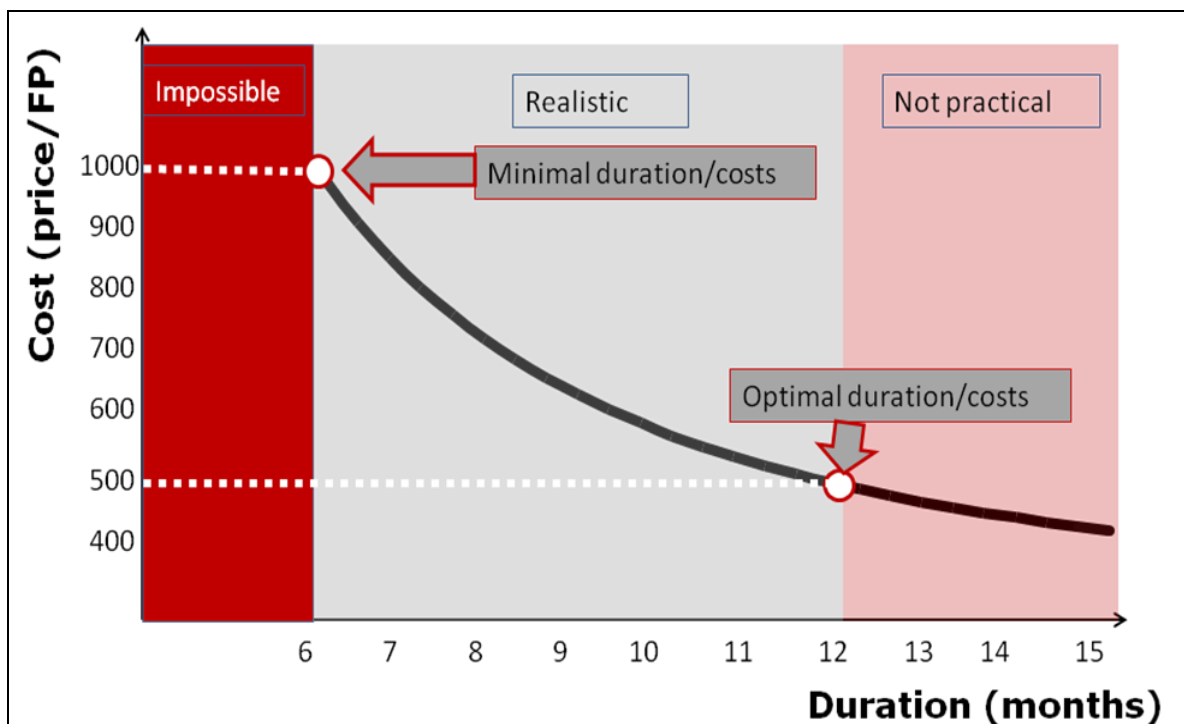

Figure 5.2: Duration vs. Effort/costs tradeoff in a specific bid
First we size the application and it turns out the size is exactly 1.000 FP. After sizing, we use our estimation tools [6][7] and our historical database to derive figure 5.2. Please note that we didn't use our real data here, it's only for instructional purposes.
When an organization possesses the QSM SLIM toolsuite (or a similar tool), it's possible to simulate the estimations in SLIM Estimate. This results in a Productivity Index (PI) that is implied in the quotation. The productivity index in QSM shows the productivity which is corrected with the duration. The black line in figure 5.2 could for instance indicate the  $PI=18,0$  line. Although the number of hours per function point is different on every point on this line, the PI could easily be the same. When the PI that is implied in the Estimate is known, it's possible to assess the reality of the quotation. In QSM it's possible to compare the PI of an Estimate with the average PI for similar projects that are present in the QSM database (over 8.000 projects) or with the PI of the projects that are stored in the organization history project history base. When an implied PI is much higher than the average PI for similar projects in the QSM database, the estimate is probably not very realistic and too optimistic. In that case, the organization should ask the supplier to present proof that they are able to produce software with a productivity that is that high.